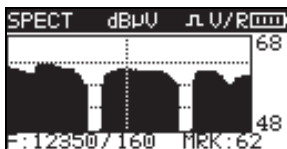

Figure 4
3. Press  to figure 4 and align the dish and maximize the signal value and quality.